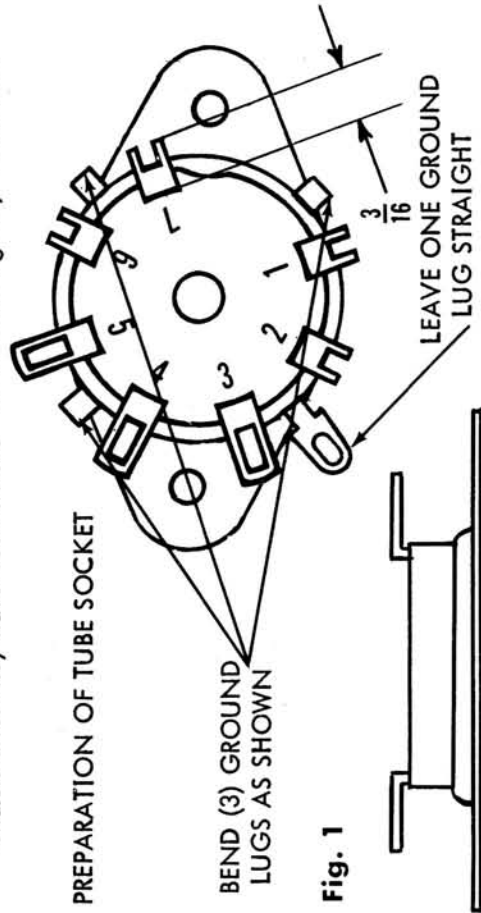

Fig. 1
Various proper methods of coupling are shown in Fig. 1. In any case, greatest frequency accuracy can be achieved by using the loosest possible coupling that gives sufficient indication.
- () 1. Fig. 1. On the metal saddle, you will find four lugs which can be used for grounding purposes. In the bakelite portion, you will find seven pins, each numbered in clockwise sequence. Place the socket on table, with the seven pins up towards you. Look straight down on the socket. Each ground lug, although physically closer to the table than the tube pins, is located between two of the pins. Thus one ground lug is between pins 2 and 3, a second ground lug is between pins 4 and 5, etc. Bend the ground lug that is located between pins 2 and 3, so that it is facing straight out, parallel to the table. The three other ground lugs are bent down against the metal socket saddle, so that they are pointing towards the table.
- () 2. Fig. 1. Position the socket as in step 1, flat against the table, with the seven pins pointing upwards, towards you. Bend the seven pins back, away from the center of the socket, so that they are all parallel to the table, and are against the bakelite portion of the socket. When this operation is completed, the pin numbers are clearly visible. Note that they are not to be bent down towards the table or short against the saddle.
- () 3. Fig. 1. Cut the lugs #1, #2, #6 and #7 to $3/16"$. This is to be measured from the point of emergence of the pin from the bakelite. Keep the above pin lengths to the $3/16"$, or they will short against the panel and chassis after they have been wired. Do not cut lugs #3, #4 and #5.